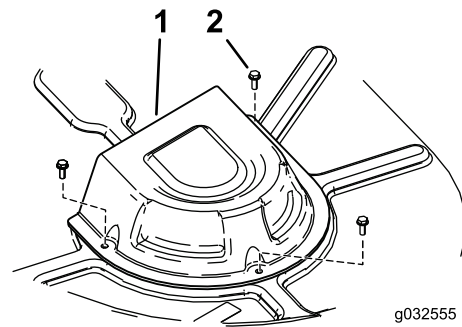

Figure 52
4. For machines with a 107 cm (42-inch) deck, remove the pulley covers (Figure 52).